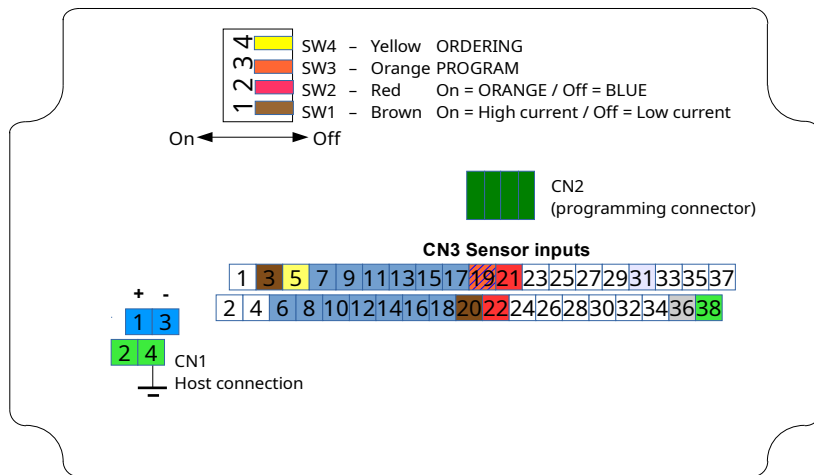

Figure 2: Connection of MTT or VITO MTT probes
- Connect the MTT or VITO MTT probes according to Figure 2: Connection of MTT or VITO MTT probes.